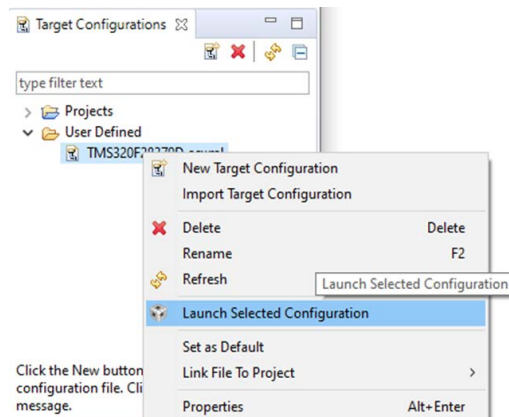

Figure 8: Launch Configuration
5. Under the **User Defined** folder, right click the configuration file and choose **Launch Selected Configuration** (Figure 8).